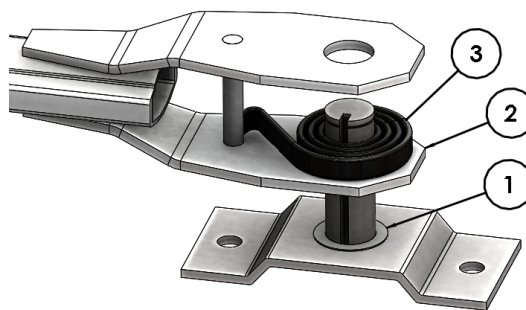

Figure 2.8
Install bushing/flat washer (1) over pivot pin. Slide bottom of the arm (2) over the pivot pin and install springs (3) one at a time as shown (Figure 2.8).